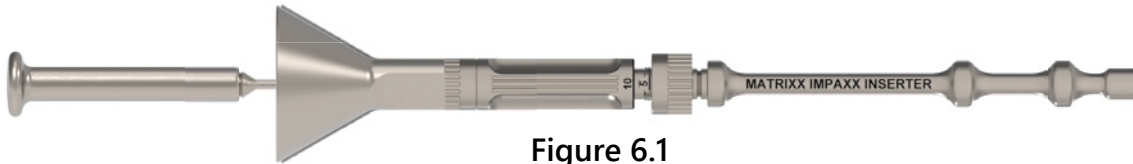

Figure 6.1
1. **Autograft or non-syringe-based flowable allograft:** Remove the Steinmann Pin. Press on the provided Bone Funnel to the proximal end of the IMPAXX Inserter (Figure 6.1). Using forceps or pickups, transfer the autograft/allograft to the Bone Funnel and tamp the material down the cannula of the Inserter with the Plunger. The Plunger has been designed to extend past the tip of the Inserter.